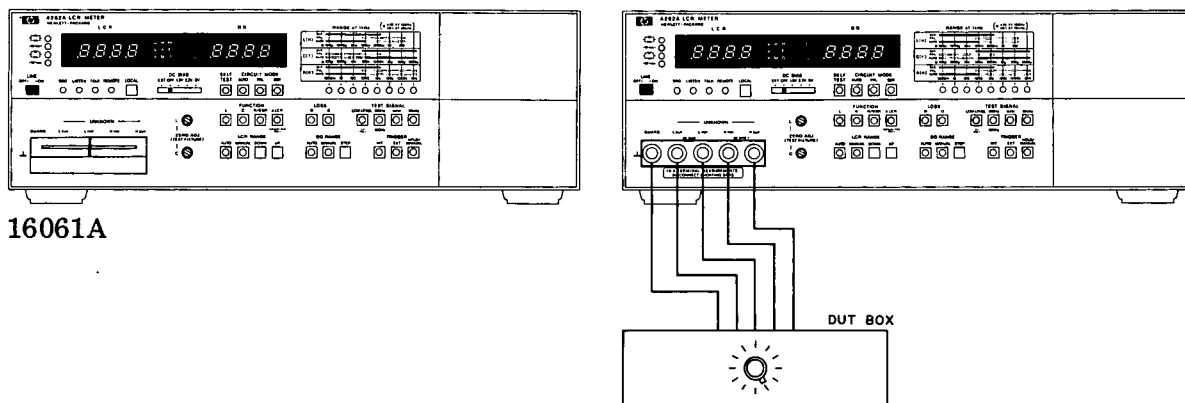

Figure 4-8. Comparator Test Setup.
1. Connect Test Leads (HP P/N 16361-61605) between 4262A UNKNOWN terminals and 16361A DUT Box as shown in Figure 4-8. If DUT Box is not available, attach 16061A Test Fixture to 4262A UNKNOWN terminals and use a 100pF capacitor as a DUT.